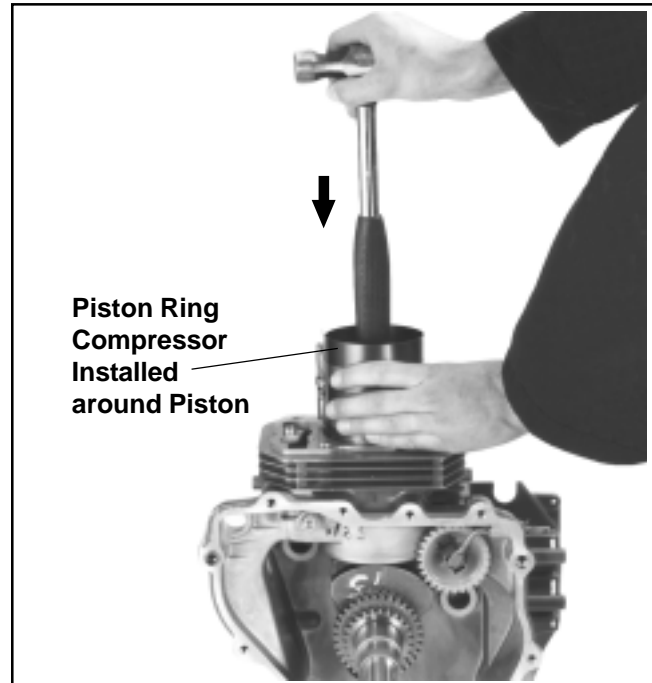

Figure 11-8. Installing Piston and Connecting Rod.
2. Lubricate the cylinder bore, piston, and rings with engine oil. Compress the piston rings using a piston ring compressor. See Figure 11-8. Push the piston through the compressor so the oil control (bottom) ring is just above the lower edge of the compressor.